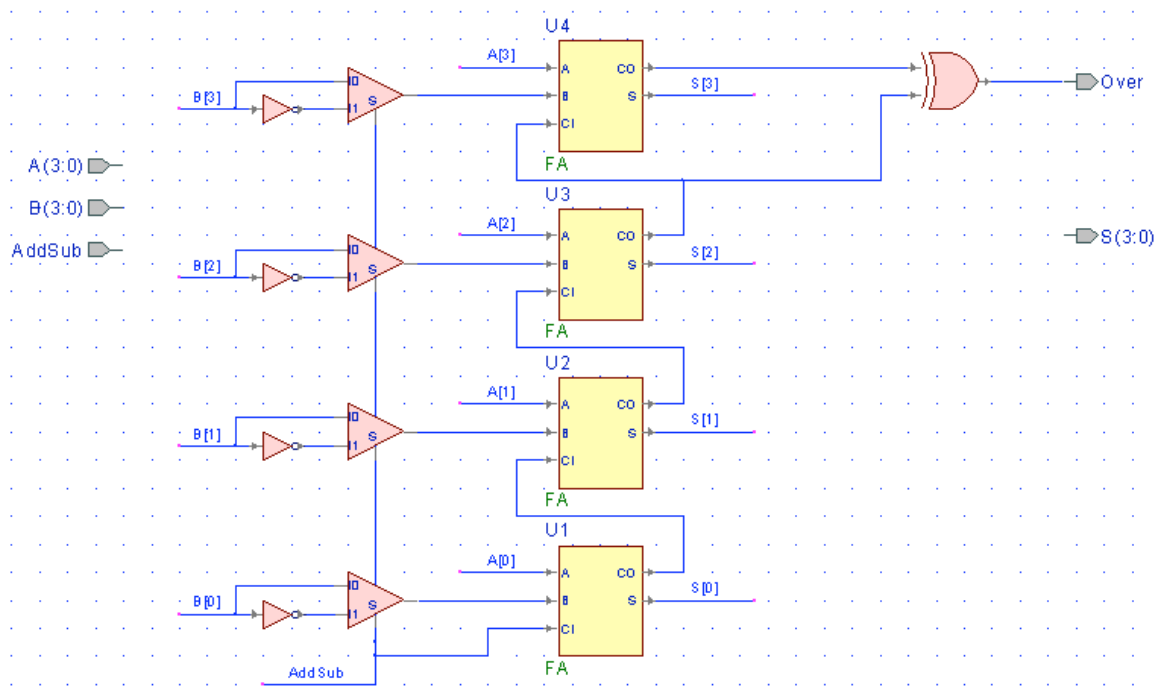

Figure 5
Figure 5 is an example of the schematic you will be designing in this portion of the tutorial. You already know how to place parts and connect them. However, this design uses buses as well as wires; therefore, you will learn how to use and connect buses. Additionally, you should gain a better understanding of how hierarchy is used to reduce the complexity of our designs.
4. Place the parts from Figure 5 into the design (use the standard 370 class library), and make the appropriate wire connections. You will find the multiplexor under the name “MUX2”, and the inverter is under the name “INV”.
As you can see in Figure 5, you can use the naming connections described in Tutorial #1 for connecting buses as well as wires. This is the simplest method and thus the method we will use. There are other ways to create so-called bus taps. Since we don't like them, we won't describe them. But you can (and should) take a look at the online documentation, which explains other kinds of taps, as well as the method used in this tutorial. To view the online documentation, go to Help/On-line Documentation in the menu bar.
Your design should now look like Figure 5. Now you are ready to test your design. In the “Test Fixtures” section of this tutorial, you learned how to place a block symbol for a design into a new schematic along with a block symbol for a test fixture and how to edit block symbols. Download the test fixture for the 4-bit adder/subtractor called addsub4\\_tf.v. Save, run the check diagram tool, debug (if necessary), and compile your 4-bit adder/subtractor design and follow the steps described in the “Test Fixtures” section to connect the block symbol of this design to the 4-bit adder/subtractor test fixture in a new schematic. Remember to follow the naming convention. The remaining steps will guide you through running a simulation with your test fixture as well as adding multi-bit signals to a waveform.